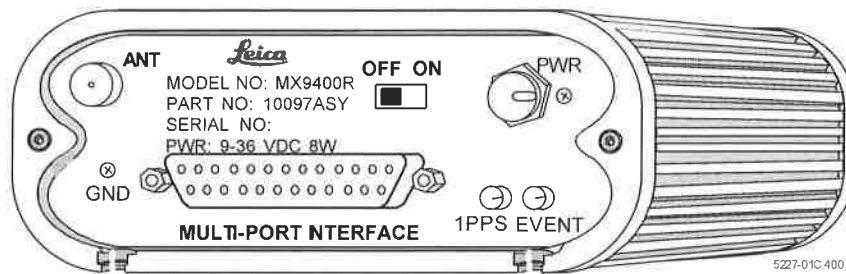
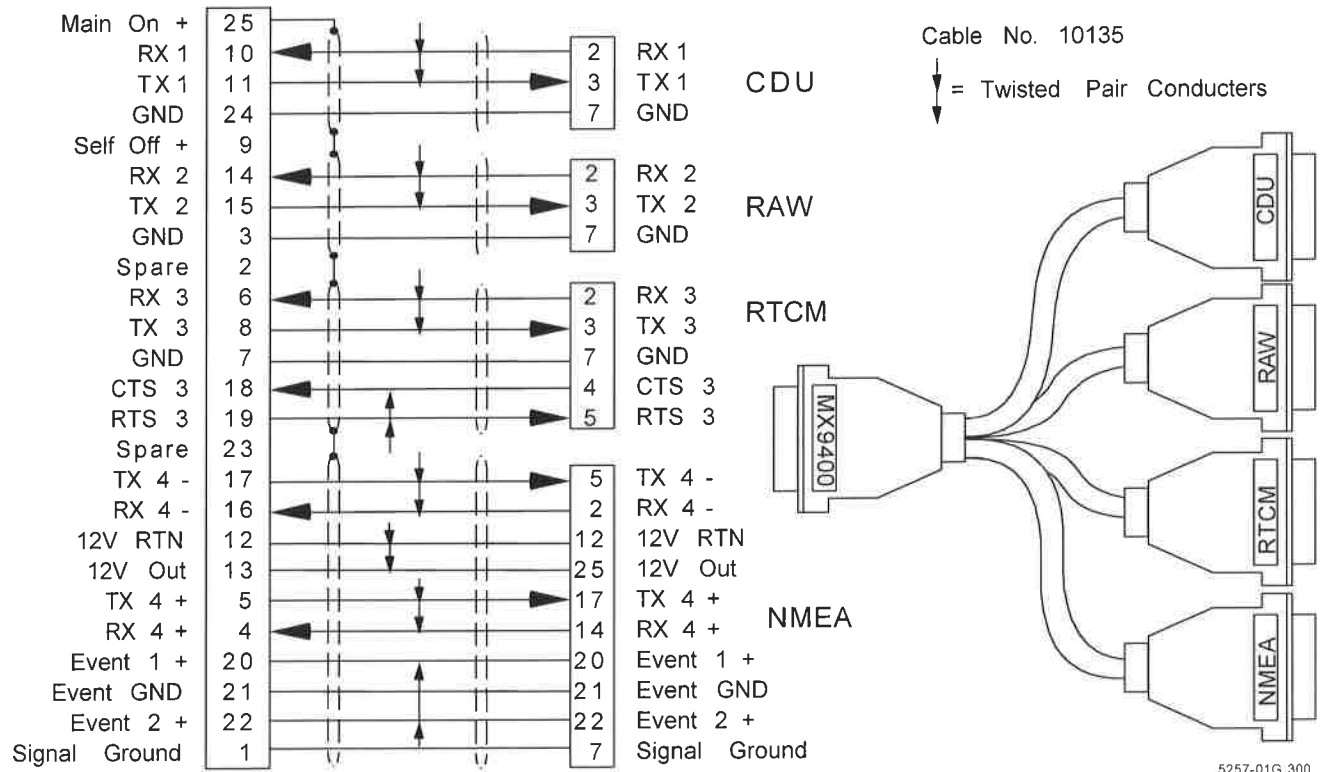

Figure 4. Rear Panel of the MX 9400 Receiver
Figure 8. MULTI-PORT Interface Connector Pin Assignments
You will want access to the ANTENNA input connector, the 1 PPS output connector (perhaps), the event connector, and the MULTI-PORT Interface dB 25S connector (Figures 4 & 5).
6. Connect the antenna cable to the ANTENNA input connector (refer to Figures 4 & 5).
External equipment connects to the MULTI-PORT Interface connector on the rear panel of the receiver unit (see Figures 4 & 5). The interface consists of four Input/Output (I/O) serial ports; three RS-232 ports and one RS-422 port. IBM compatible (MS-DOS based) software controls the communications. Figure 8 depicts the MULTI-PORT Interface connector pin assignments. If you are logging data with a personal computer (PC) on the RS-422 port (4), you will need the optional RS-422 to RS-232 data converter kit, P/N 10236. You determine the exact use of the individual I/O ports by your needs and choice of associated equipment. You may, for example, use the Leica Navigator to navigate as a stand-alone unit or as a component in an integrated system.